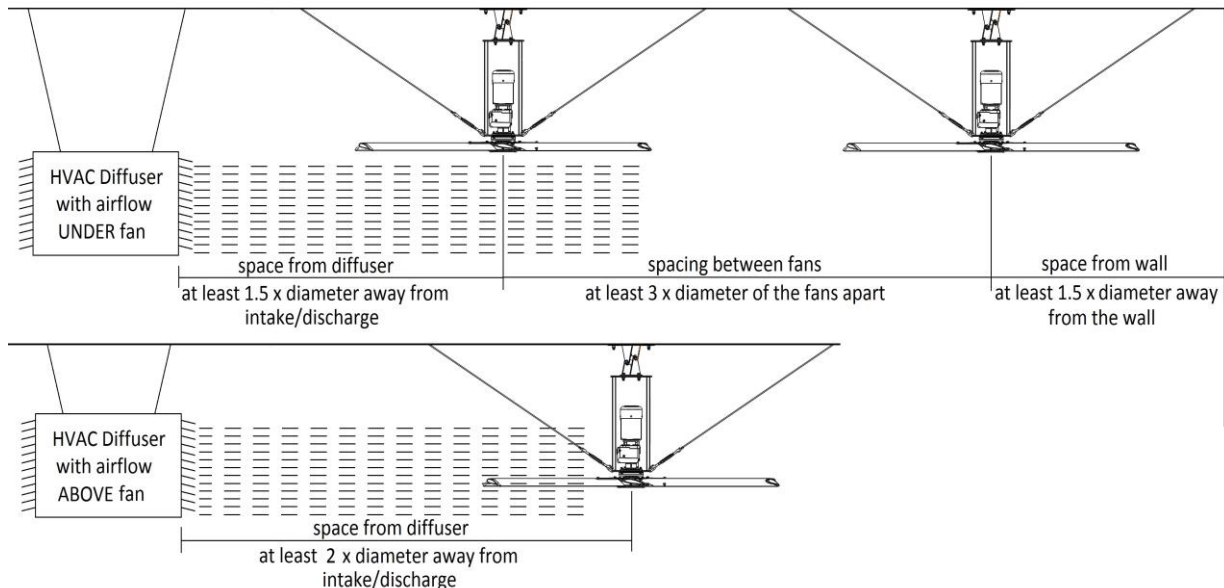

Figure 1: Fan Clearance and Placement
**⚠ ATTENTION: The minimum distance of a fan to a wall or similar obstruction should be no less than 1.5 times the diameter of the fan. Reference Figure 1.**